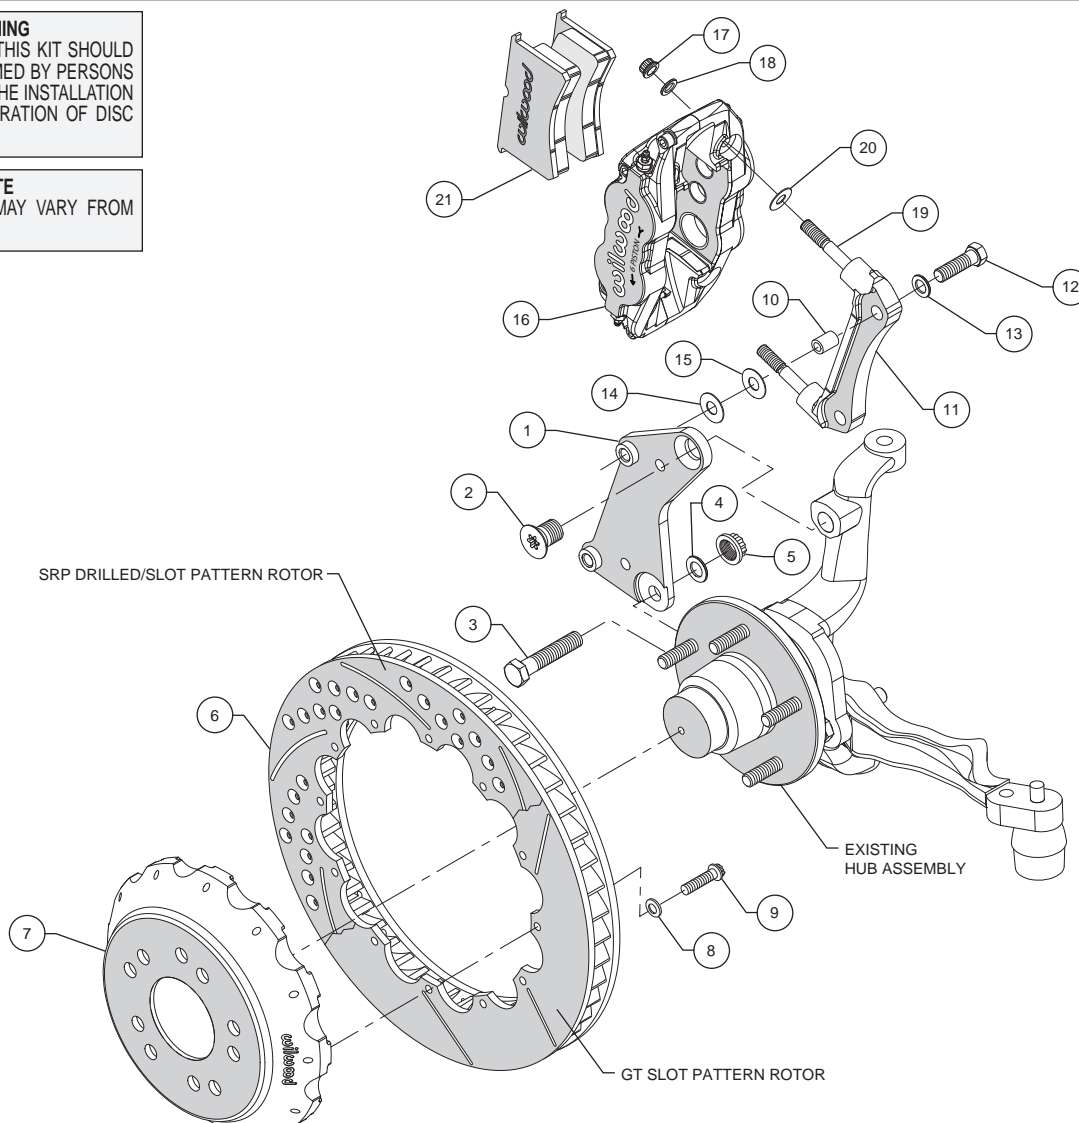

Figure 1. Typical Installation Configuration
- The radial mount caliper bracket assembly (11) should be installed first with clean, dry threads on the mounting bolts. Slide bolt sleeve (10) into the mounting holes of bracket (11). Install the bracket on the back side of the spindle/flat caliper mounting bracket (1) by sliding bolt (12) through washer (13), and through sleeve (10.) Initially place three shim washers (14) between the two brackets (1 and 11) (see Figure 1). The bracket must tighten squarely against the side of the spindle/caliper bracket. Inspect for interference from casting irregularities, machining ridges, burrs, etc. Later, after the caliper, pad, and rotor alignment has been checked, and any necessary shims have been put in place, the mount bolts should be coated with red *Loctite*® 271 and torqued to 47 ft-lbs.
- NOTE:** This kit contains distinct right and left hand calipers that must be mounted in a specific direction, as described below. Lubricate the caliper mounting studs (19) with lightweight oil. Initially place one .035” thick shim (20) on each stud as shown in Figure 1. Mount the caliper (16) onto the radial mount bracket (11) using lock nuts (17) and washers (18), Figure 1. Ensure that the caliper is mounted so that the largest pistons are at the rotor exit end of the caliper, in relation to the direction of rotor rotation. Temporarily tighten the lock nuts and view the rotor through the top opening of the caliper. The rotor should be centered in the caliper. If not, adjust by adding or subtracting shims (14 and/or 15) between the spindle/caliper mounting bracket (1) and the radial mount bracket (11). Always use the same amount of shims on each of the two mounting bolts.
- Remove the caliper center bridge pad retainer bolt, nut, and tube from the caliper. Slide the brake pads (21) into place. They should install easily without interference. Check that the outside radius of the brake pad is flush with the outside diameter of the rotor face. Add or subtract shims (20) between the caliper and mount bracket to gain the proper alignment. Reinstall the center bridge pad retainer tube, bolt, and locknut. The locknut should be snug without play in the bolt or tube. Be cautious not to over tighten.
- Once all clearances have been checked, remove the wheel, caliper, hat, and rotor from the spindle and hub. Secure the spindle/caliper mounting bracket (1) to the spindle with bolts (2 and 3) using red *Loctite*® 271 on the bolt threads. Torque bolt (2) to 140 ft-lb and bolt (3) to 77 ft-lb. Remove bolts (12) from the radial mount caliper bracket (11) and coat threads with red *Loctite*® 271 and reinstall. **NOTE:** Only removing one bolt at a time, then coating the threads and reinstalling will help keep all the shims in place. Torque bolts (12) to 47 ft-lb. Reinstall the hat and rotor assembly and again use lug nuts to hold it in place. Reinstall the caliper (16), torque the caliper nuts (17) to 30 ft-lb.